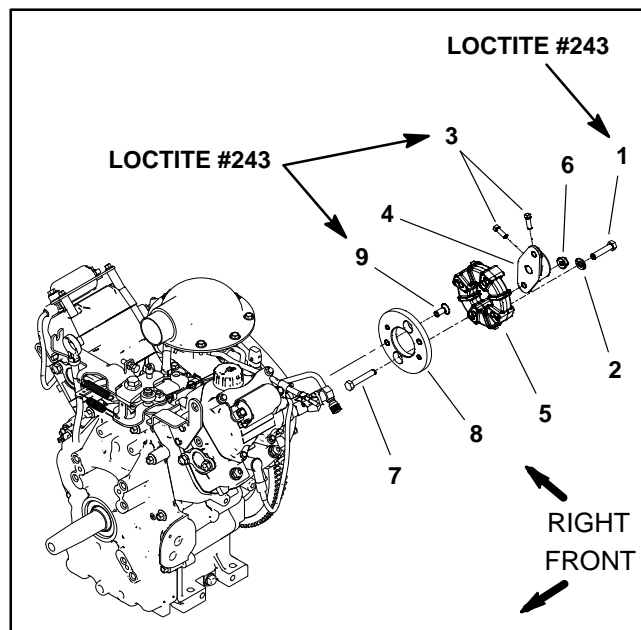

Figure 27
4. Remove two (2) set screws (item 3 in Fig. 27) on the pump hub to allow gear pump shaft removal from pump hub.
6. Remove four (4) flange nuts and flange head screws that secure gear pump to mount.
4. Install four (4) flange head screws and flange nuts to secure pump to mount. Do not fully tighten fasteners.
6. Apply Loctite #243 (or equivalent) to threads of pump hub set screws (item 3 in Fig. 27). Install and tighten both set screws to the pump hub to secure hub to the gear pump shaft.